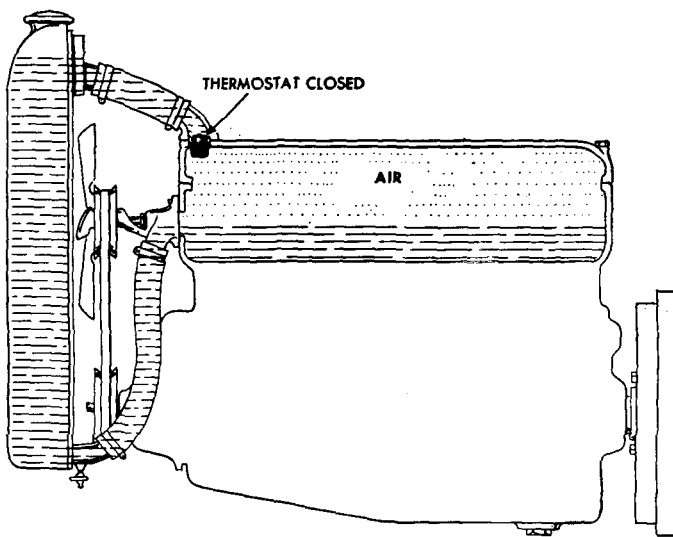

FIG. 14-15. Air trapped back of closed thermostat as engine cooling system is filled.
5. *Refilling system.* When the cooling system has been cleaned, the thermostat replaced, and all hoses and clamps reconnected, the system should be refilled. Since the water that is put in will probably be cold, the thermostat may close and prevent quick filling. With the thermostat closed, air is trapped below the thermostat in the engine water jackets (Fig. 14-15). The thermostat usually has